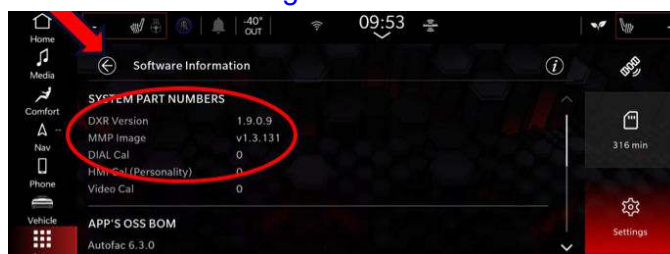

Fig. 6
11. Check if the software version is above 1.4.160 Fig. 6.